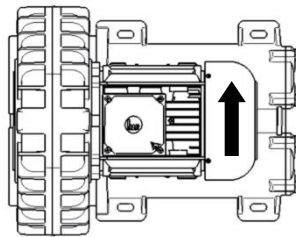

Fig. 1
- . The intended rotating direction of the shaft is marked with arrows on the fan guard of the electric motor (fig. 1).